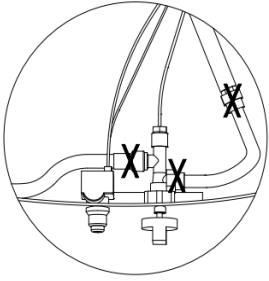

FIGURE 1
4. Please refer to diagram for proper installation (Figures 1 and 2).
5. Spoon several drops of solution or use a squirt bottle, at all "X" locations (Figures 1 and 2).